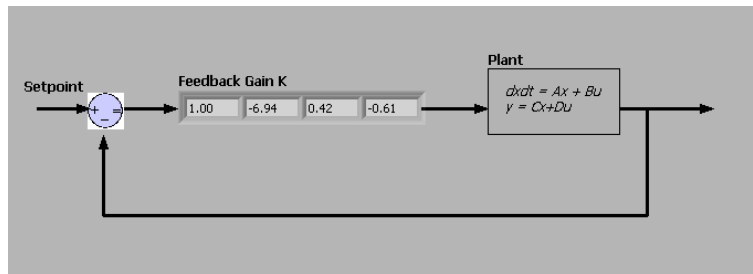

Figure 3.3: Generated LQR Gain
4. Go the *LQR* tab. As depicted in Figure 3.3, this computes a feedback gain  $K$  according to the model you loaded and the  $Q$  and  $R$  matrices that are set in the VI. The  $Q$  and  $R$  are initially set to the default values of: